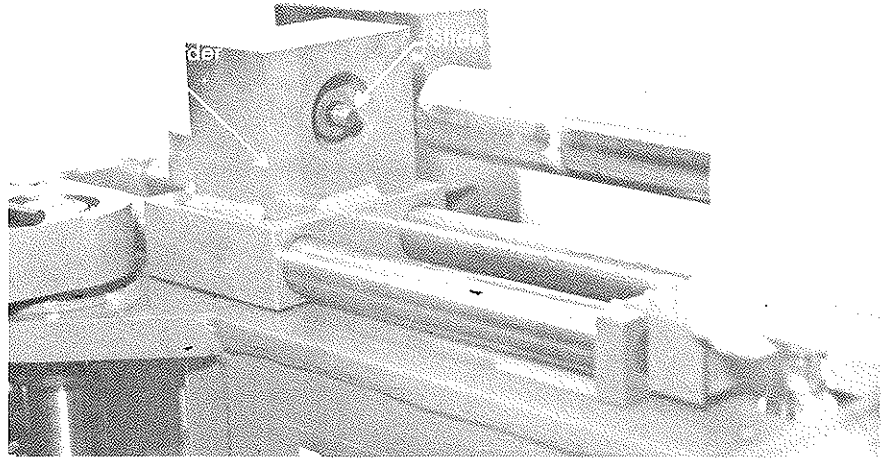

Figure 11
3. Remove the screw that connects the die carriage to the end of the cylinder ram and slide die carriage forward. (Figure 11)